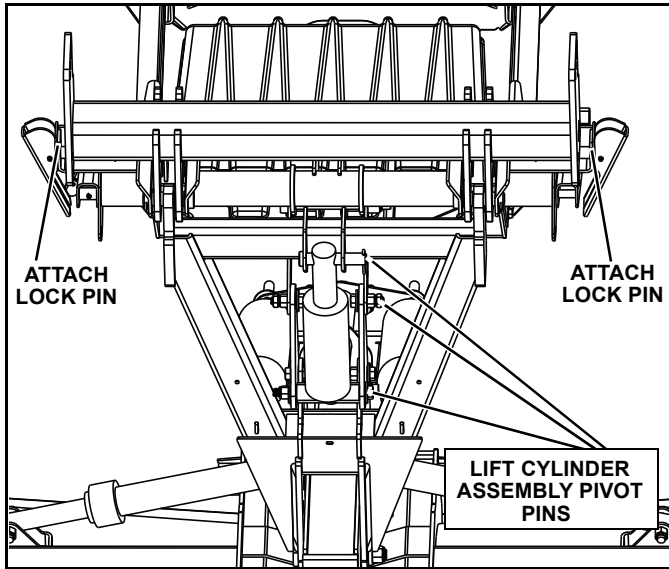

Figure 2-3
5. Apply a small amount of light oil to the lift cylinder assembly pivot pins and both attach lock pins. (See Figure 2-3.)